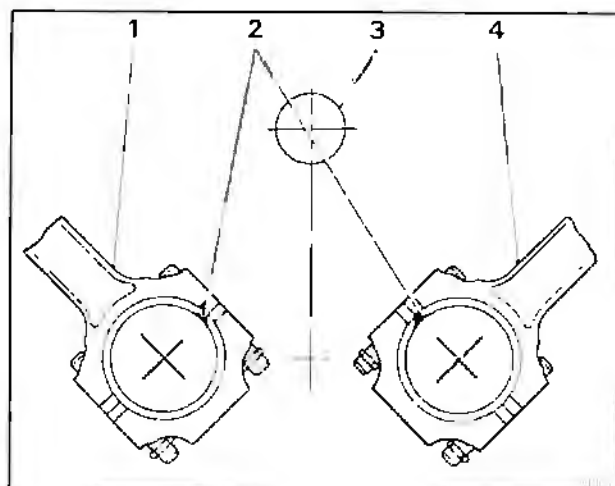

Fig. E6-5 Position of the connecting rod tangs
- b. The tangs on the connecting rod and cap should always be nearest the camshaft (see fig. E6-5).